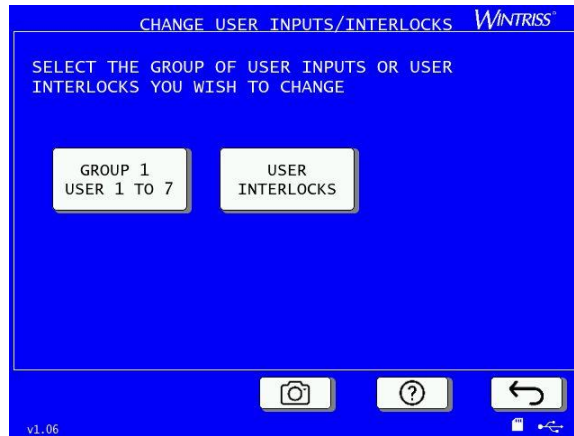

Figure 3-11. Select User Inputs or Interlock
3. Press USER INPUTS & INTERLOCKS. The Change User Inputs/Interlocks screen appears, Figure 3-11.